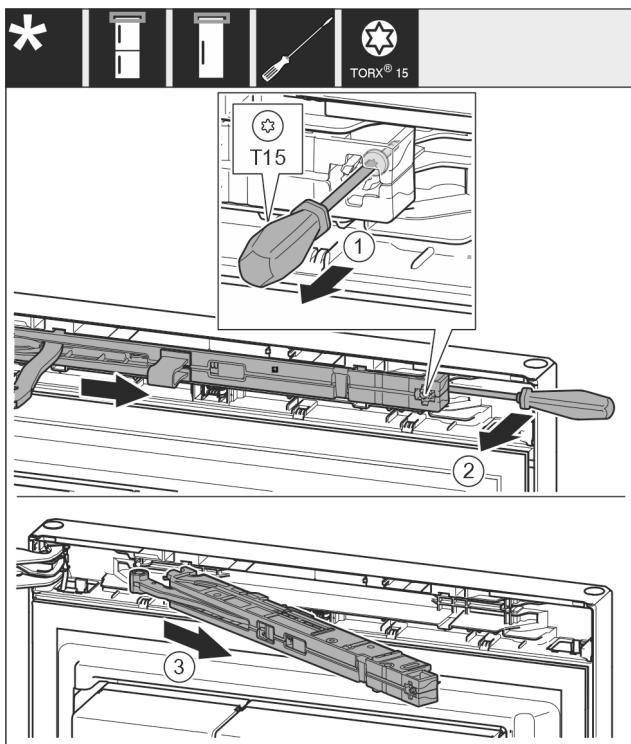

Fig. 11
- Loosen the screw Fig. 11 (1) on the closing damper unit with a 14 mm (9/16 in) screwdriver.
- Use the screwdriver to lift out the closing damper unit Fig. 11 (2) on the handle side.
- Pull out the closing damper unit Fig. 11 (3).